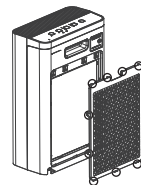

Fig.5
5. Replace the back cover (see fig.5)